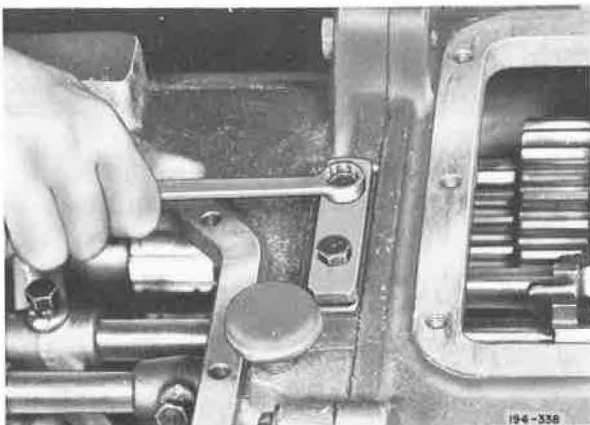

Figure 5-25. Removing Shifter Rail Poppet Ball Cover
4. Remove transmission case top opening covers. Cautiously remove shifter rail poppet ball cover (cover is spring loaded), pins and springs. See Figure 5-25. Poppet balls may be removed with a magnet.